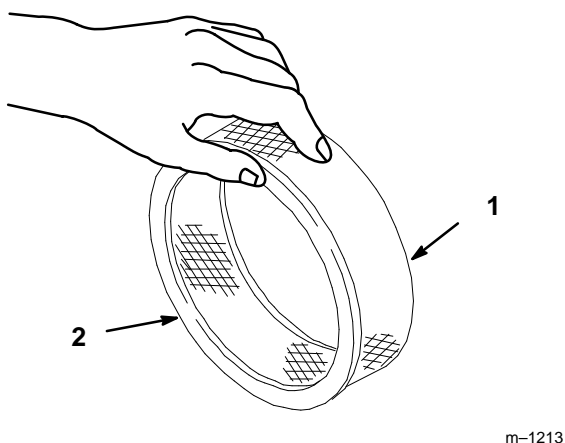

Figure 22
- A. Lightly tap the element on a flat surface to remove dust and dirt (Fig. 22).